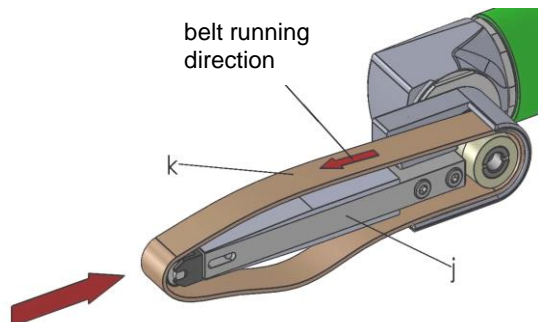

Fig. 2 Changing the belt
Press the telescopic sanding arm (J) from the front against the drive roller and remove the sanding belt (K) by hand. When installing the new sanding belt, pay attention to the belt running direction indicated by the arrow on the inner side of the belt (see Fig. 2 )